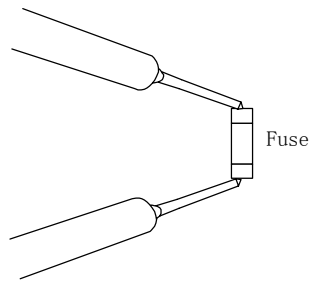

Fig. 2
2) Check for continuity using a multimeter as shown in Fig.2.